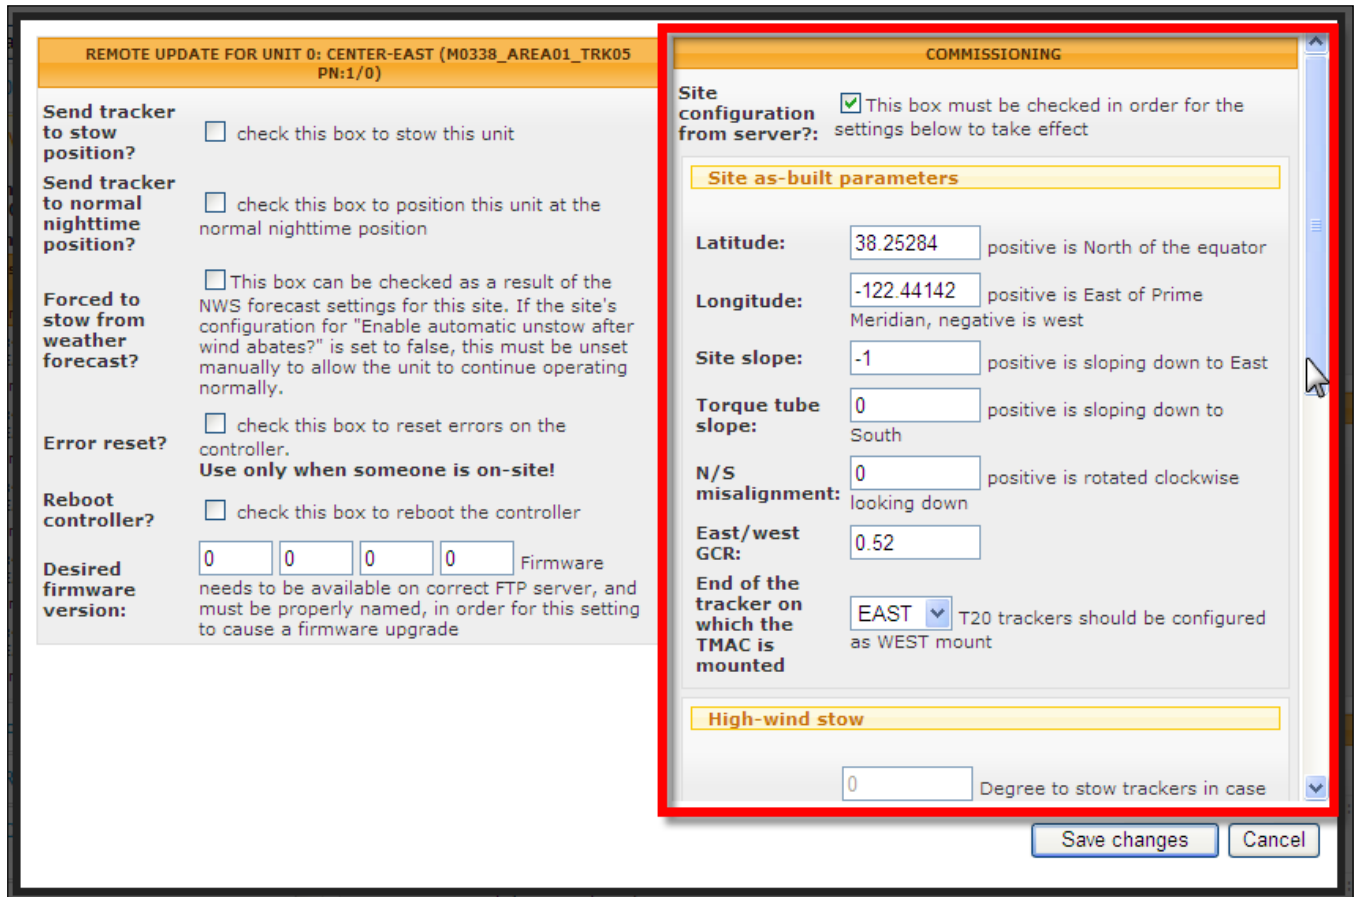

Fig. B43
4. The screen with the **REMOTE UPDATE FOR [DTMAC UNIT]** and **COMMISSIONING** forms appears (Fig. B43).